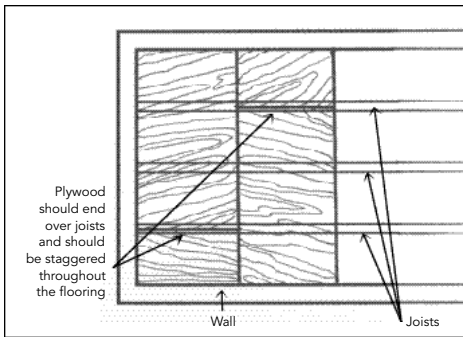

Fig. 1B
- Plywood should be dry and installed at right angles to the existing floor joists using suitable fasteners. The end joints of the subfloor should break across different points throughout the floor. This will provide a more rigid substrate. Refer to panel manufacturer's recommendations for use as a subfloor and recommended fastening systems. (See Fig. 1B.)